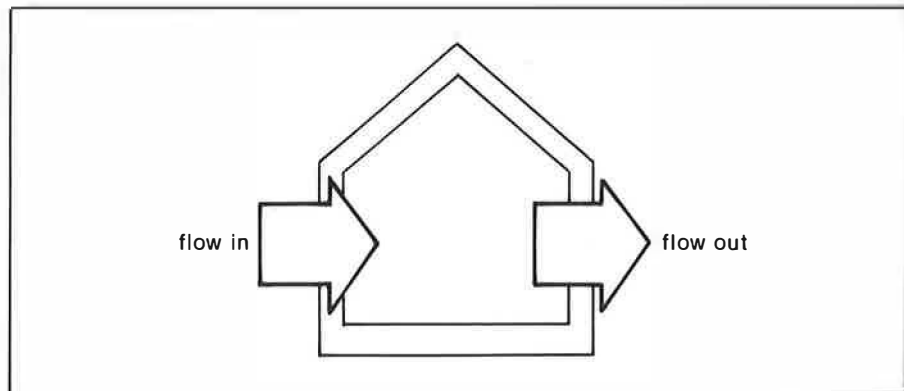

Fig. 16. Balanced exhaust and supply.
- Create a balance between exhaust air and supply air. Seal leaky ducts and plenums. Install additional supply air registers and cold air returns. Provide a fresh air duct to the return air plenum. Make sure that heat recovery ventilators are balanced, and are not designed to defrost by running in exhaust mode for extended periods. Placing the house under excessive negative pressure to prevent moisture problems in wall cavities and attics is not recommended when there are naturally aspirated combustion devices (fig. 16).